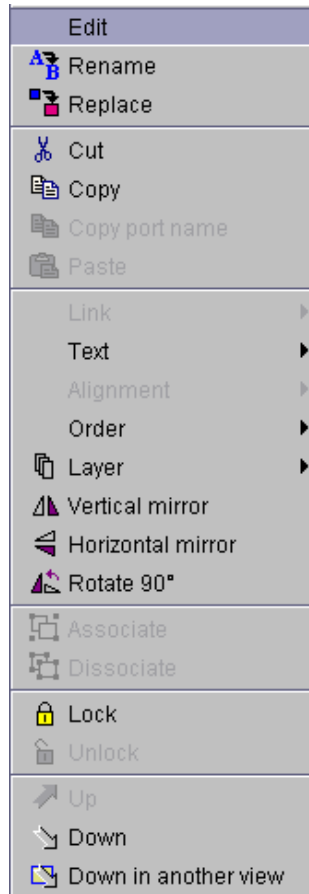

Figure 154 : Architecture – Contextual menu
- ◆ Right click on the component or equipment model to display the contextual menu (Figure 154). Select command **Rename**: